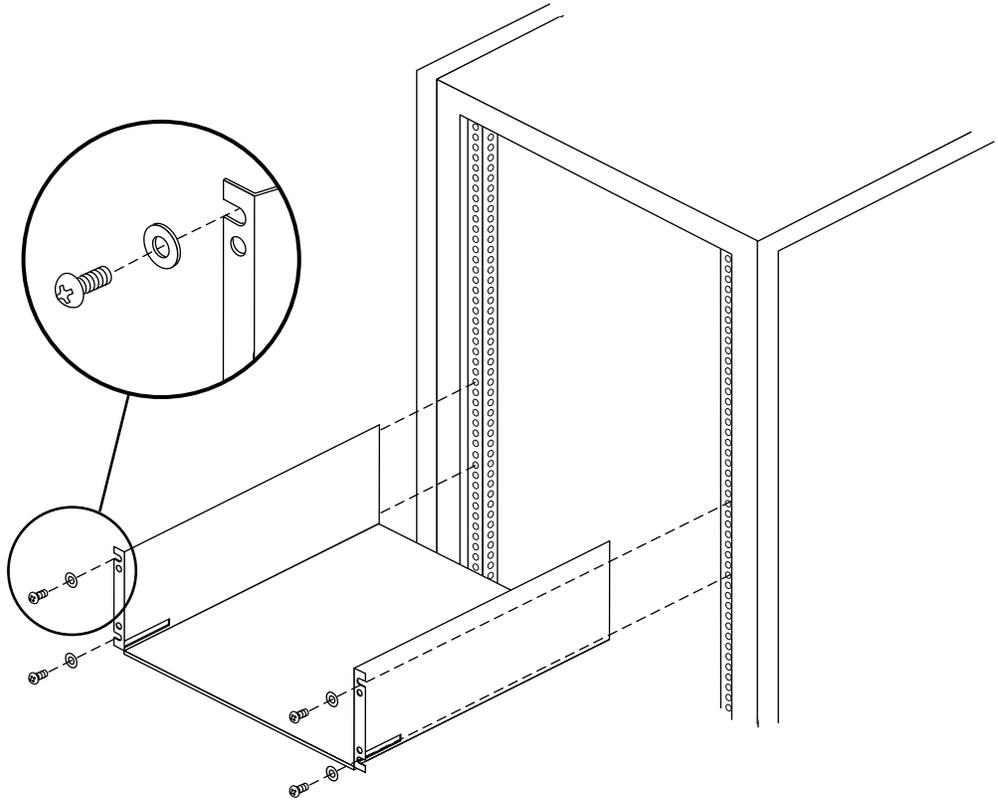

Figure 3-4 Installing the Rackmounting Shelf
2. Install the mounting shelf in the rack, attaching it with the four screws. Place a washer between each screw head and the mounting shelf, as shown in Figure 3-4.